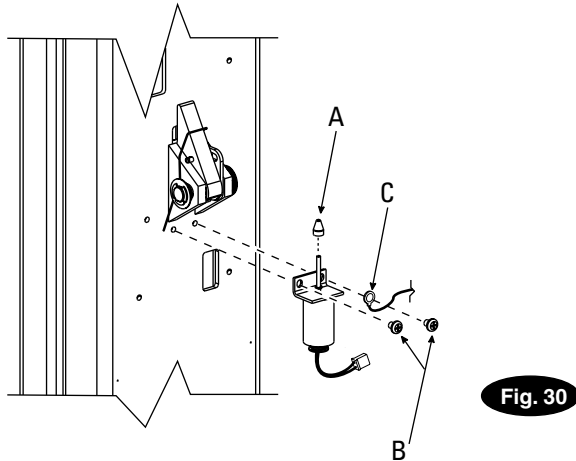

Fig. 30 Detail
22. Solenoid Attachment: Attach solenoids under locking latches of both columns, Fig. 30. Place sliders onto solenoid plunger rods. Place solenoids onto columns and tighten, Fig. 30.
Remove access panel from the master control panel (master control panel has 5 cables attached to it), Fig. 31. Install (2) 5/16"-18NC x 3/8" PHMS screws in holes on each side of the locking latch (power unit side) leaving approximately 3mm exposed to hold the panel. Hang the master control panel over locking latch to column on the 5/16"-18NC x 3/8" PHMS screws and pull the locking latch solenoid wire through the panel, Fig. 31. Plug locking latch solenoid into master control panel. Connect the ground wire with ring to terminal at one of the lock solenoid mounting screws, Fig. 30.